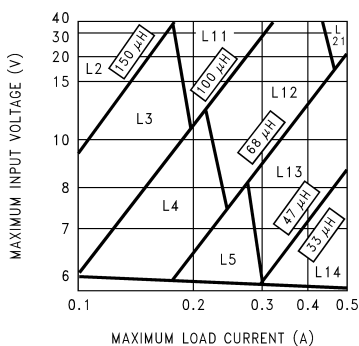
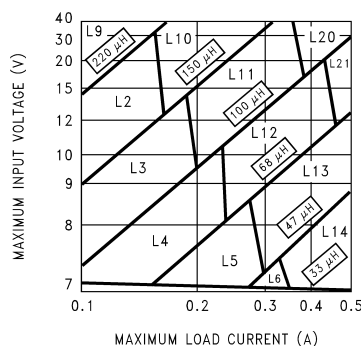
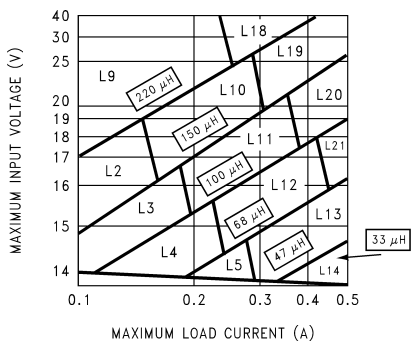

Figure 9. LM2674-3.3
Figure 10. LM2674-5.0
Figure 11. LM2674-12
A. Select the correct inductor value selection guide from Figure 9 , Figure 10 or Figure 11 (output voltages of 3.3V, 5V, or 12V respectively). For all other voltages, see the design procedure for the adjustable version.	A. Use the inductor selection guide for the 5V version shown in Figure 10 .
B. From the inductor value selection guide, identify the inductance region intersected by the Maximum Input Voltage line and the Maximum Load Current line. Each region is identified by an inductance value and an inductor code (LXX).	B. From the inductor value selection guide shown in Figure 10 , the inductance region intersected by the 12V horizontal line and the 500mA vertical line is 47 μH, and the inductor code is L13.